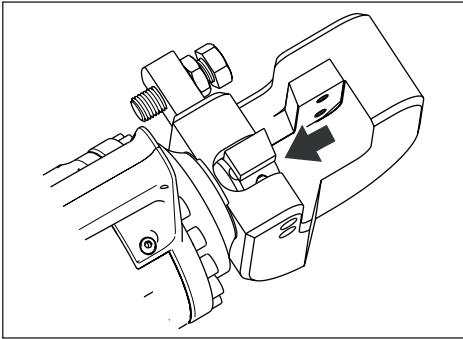

Figure 4, Piston and Blade Fully Retracted ("Home") Position
- After the piston is fully advanced the piston will automatically reverse direction and move to the fully retracted “home” position. See Figure 4.
Be sure that the piston and moving blade are located in the fully retracted “home” position before placing any material inside the cutting head. See Figure 4.
2. Be sure that the piston is in the “home” (fully retracted) position. See Figure 4.